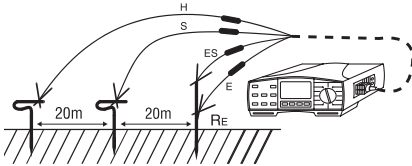

Figure 28: Connection of test leads
- ▶ Place the earth rods for auxiliary earth and probe in one line, if possible, in accordance with Figure 28. This layout can also be realised by a triangular shape. The distance between probe and earth or probe and auxiliary earth must be a minimum of 20m. Carefully place the test leads making sure that the test leads are not parallel to each other and do not cross to avoid coupling.
- ▶ Connect test leads to earth rods according to Figure 28. If desired, this connection information can be retrieved on the measurement instrument using the key 'HELP'. Repeated pressing of the key 'HELP' indicates the various options for connection.